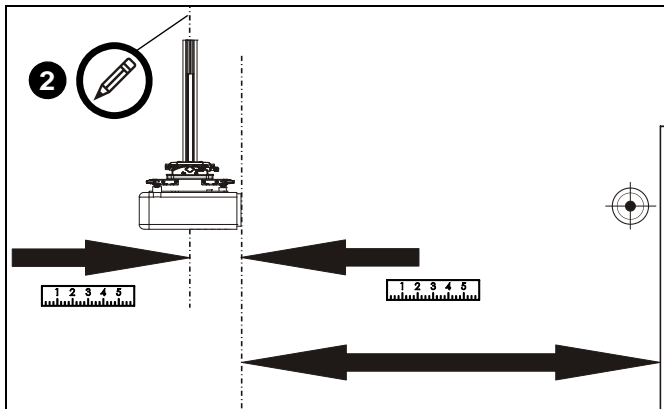

Figure 7
2. Determine exact location of column. Mark location on lower (finished) side of ceiling tile. (See Figure 7)